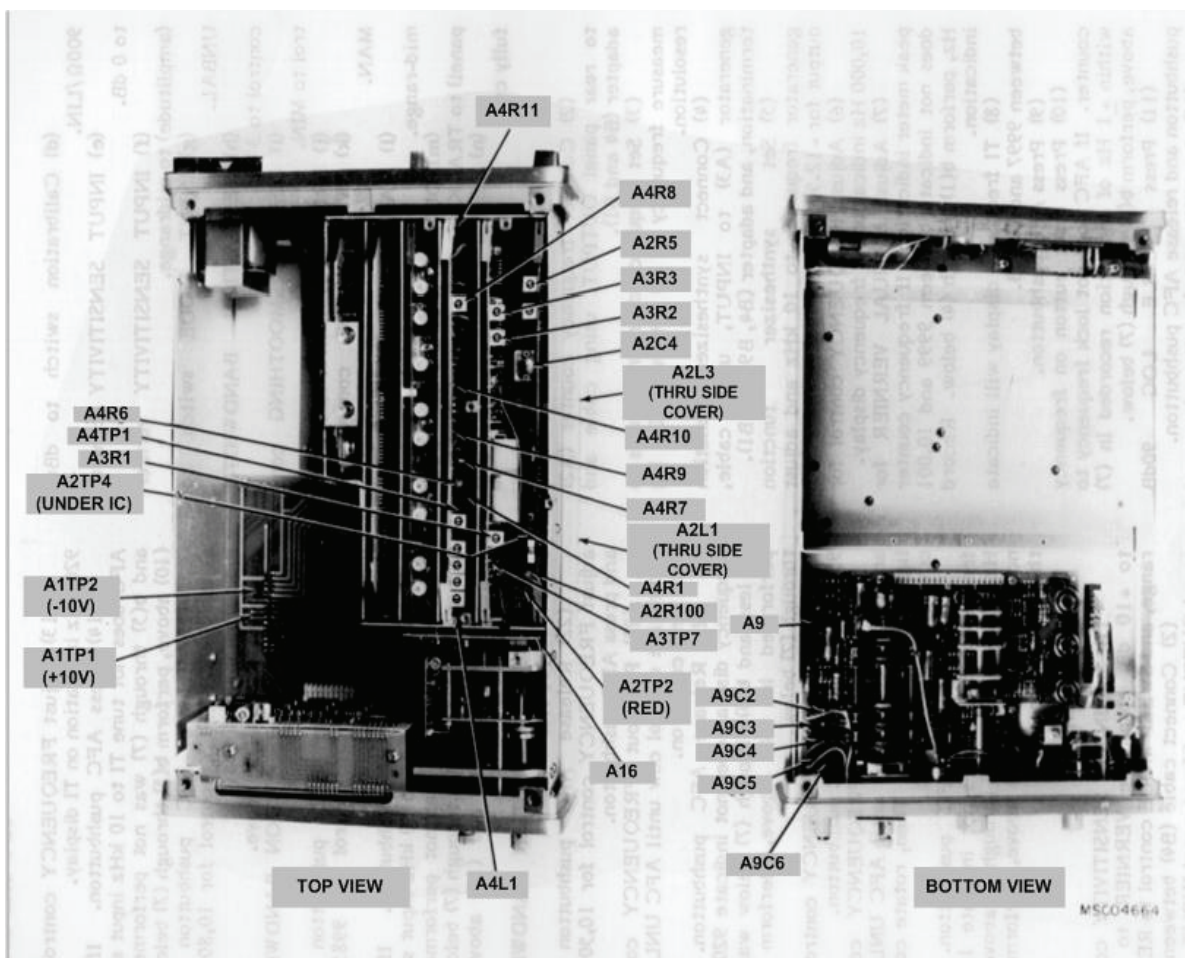

Figure 1. Adjustments.
(1) Set **INPUT SENSITIVITY** control to **+10 dB**, amplitude **VERNIER** to midrange, and **SWEEP MODE** control to **RESET**.
- (2) Connect rear panel **OUTPUT** to front panel **INPUT**.
- (3) Adjust A2C4 (fig. 1) for peak meter indication. (R)
- (4) Disconnect cable connected in (2) above.
- (5) Set **INPUT SENSITIVITY** and **VERNIER** controls to **CAL**, **RESOLUTION BANDWIDTH** control to **10 Hz**, and **SWEEP MODE** control to **OFF**.
- (6) Adjust **FREQUENCY** control for exactly 10,000 Hz indication on TI display. Press **AFC** pushbutton.
- (7) Connect multimeter to A3TP7 (fig. 1) and chassis ground and adjust A3R1 (fig. 1) for multimeter indication of 0 ± 0.5 V dc. (R)
- (1) Set **RESOLUTION BANDWIDTH** control to **300 Hz**, **FREQ SPAN** control to **0 Hz**, **SWEEP MODE** control to **RESET**, and **MANUAL VERNIER** control fully ccw.
- (2) Remove card nest cover to gain access to board A2.
- (3) Short red lead at A2TP2 (RED) (fig. 1) to chassis ground.
- (4) Adjust A2L3 (fig. 1) for 0 to 5 Hz indication on TI display. Remove short from A2TP2 (RED). (R)
- (5) Adjust **FREQUENCY** control for 10 Hz indication on TI display.
- (6) Set **FREQ SPAN** control to **50 kHz** and adjust A3R2 (fig. 1) for 10 Hz indication on TI display. (R)
- (7) Set **SWEEP MODE** control to **MAN** and **MANUAL VERNIER** control fully ccw.
- (8) Adjust **FREQUENCY** control for 0 Hz indication on TI display.
- (9) Connect multimeter to A2TP4 (fig. 1) and adjust A2L1 (fig. 1) for multimeter indication between -1.49 and -1.51 V dc. (R)
- (10) Position **MANUAL VERNIER** control fully cw.
- (11) Adjust **FREQUENCY** control for 50,000 Hz indication on TI display.
- (12) Adjust A2R100 (fig. 1) for -1.5 V indication on multimeter. (R)